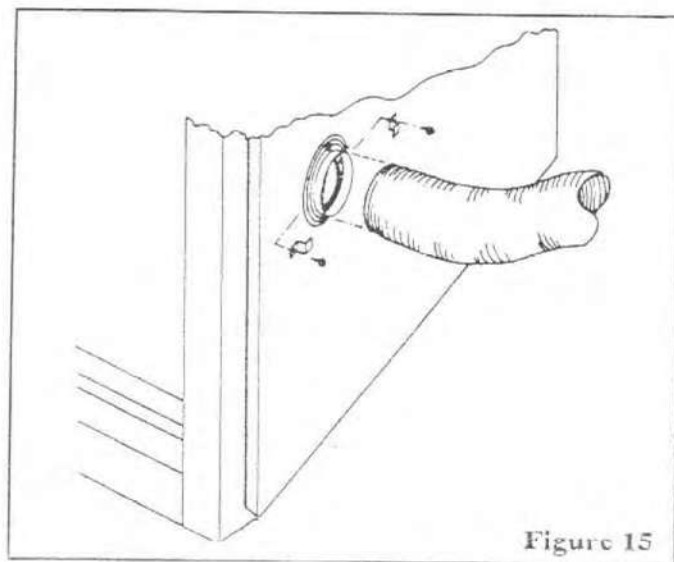

Figure 15
**STEP 8:** With the two remaining sheet metal screws and the two clamp brackets supplied, secure the duct to the air gate assembly as shown in Figure 15.